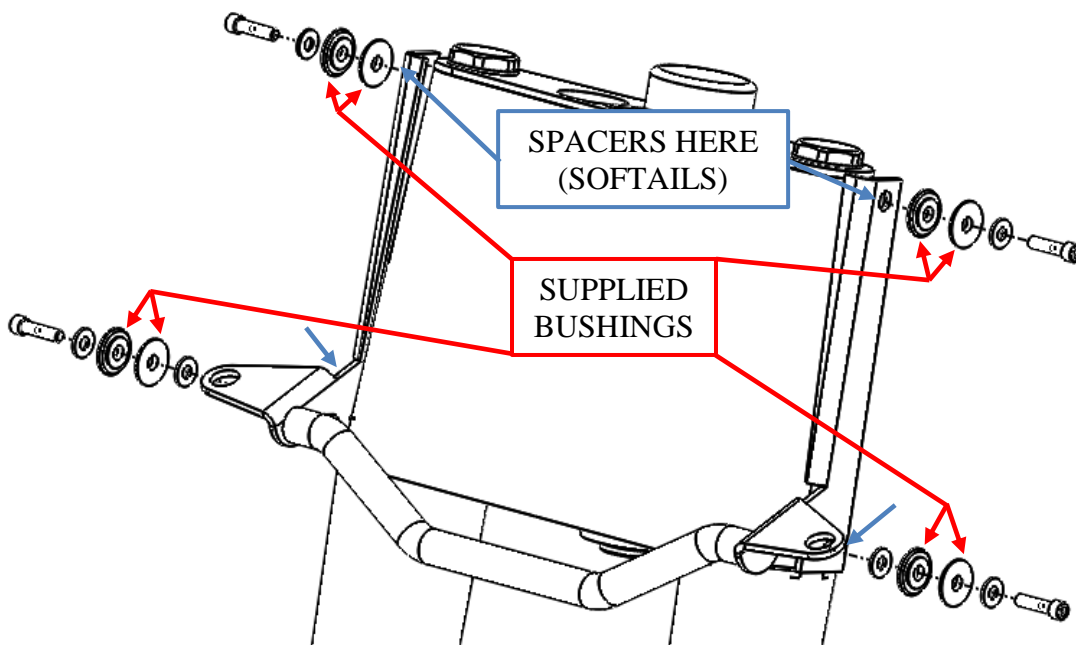

Figure 4: Reinstall factory hardware with the provided stainless bushings.
3. Reinstall the spot lamps (if equipped). Use the supplied Loctite to reinstall the hardware (screws or acorn nuts), along with the provided stainless bushings, until they just begin to snug up. Then loosen each one about 1½-2 turns, as this will allow you to slide the fairing into place on the bike. See Figure 4. Note: Place bushings with step lip facing each other. **Note: Softail models use the provided spacers when not equipped with spot lamps only.**